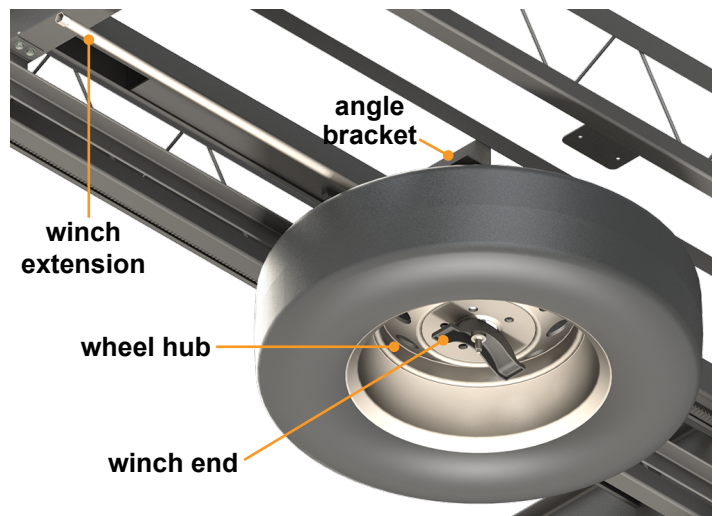

Fig.6
2. Completely remove the storage bin to access the spare tire carrier winch extension (Fig.6).